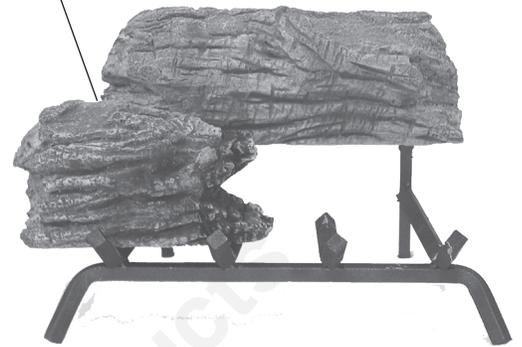

Figure 19 - Placing Front Left Log (#2) on Grate
3. Place front left log #2 on the front of the grate and to the left. See Figure 19.